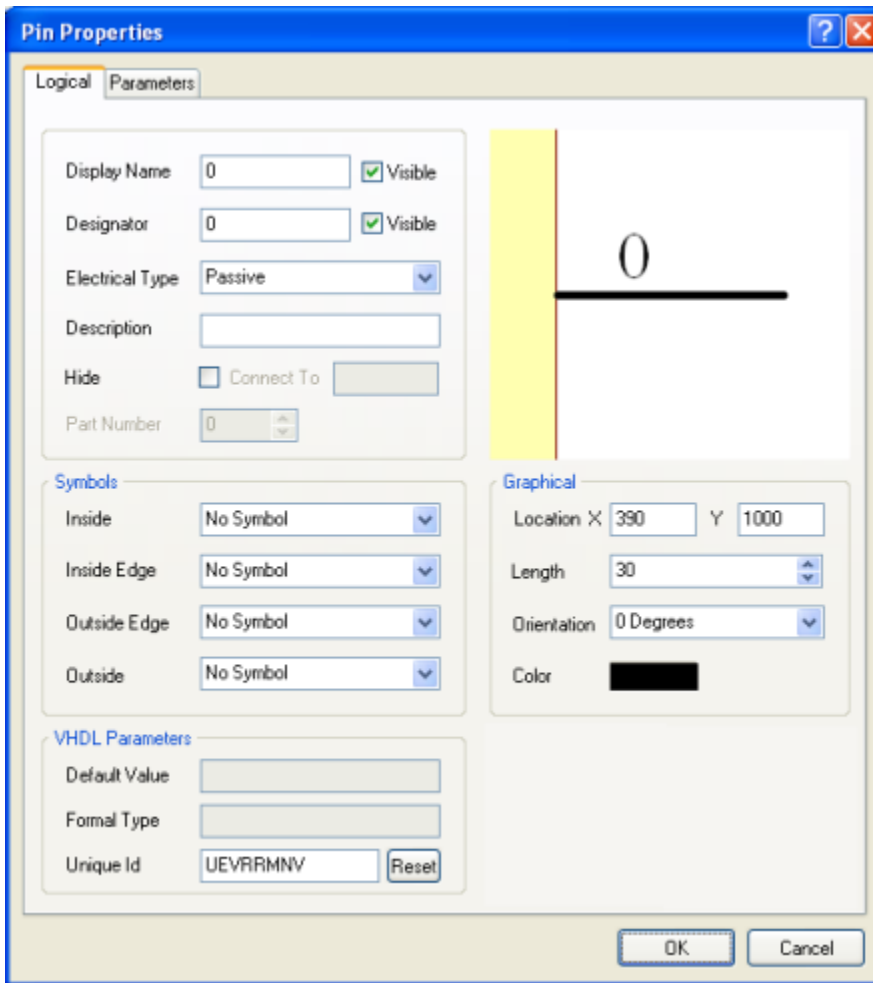

Figure 8. Set the properties of the Pin before placing it.
2. Before placing the pin, press the **TAB** key during placement to edit the pin's properties. The *Pin Properties* dialog (Figure 8) displays. If you define the pin attributes before you place it, the settings you define will become the defaults and the pin numbers and any numeric pin names will auto-increment when you place them.